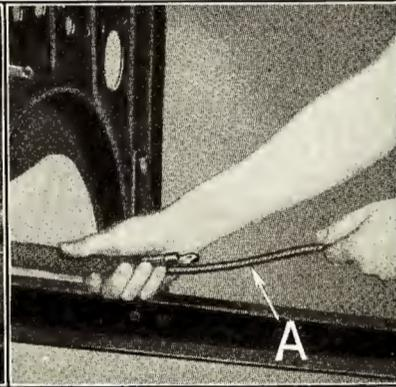

Fig. 44
- (d) Lighting switch loom can then be removed by withdrawing wires through cable sleeve (See "A" Fig. 44).